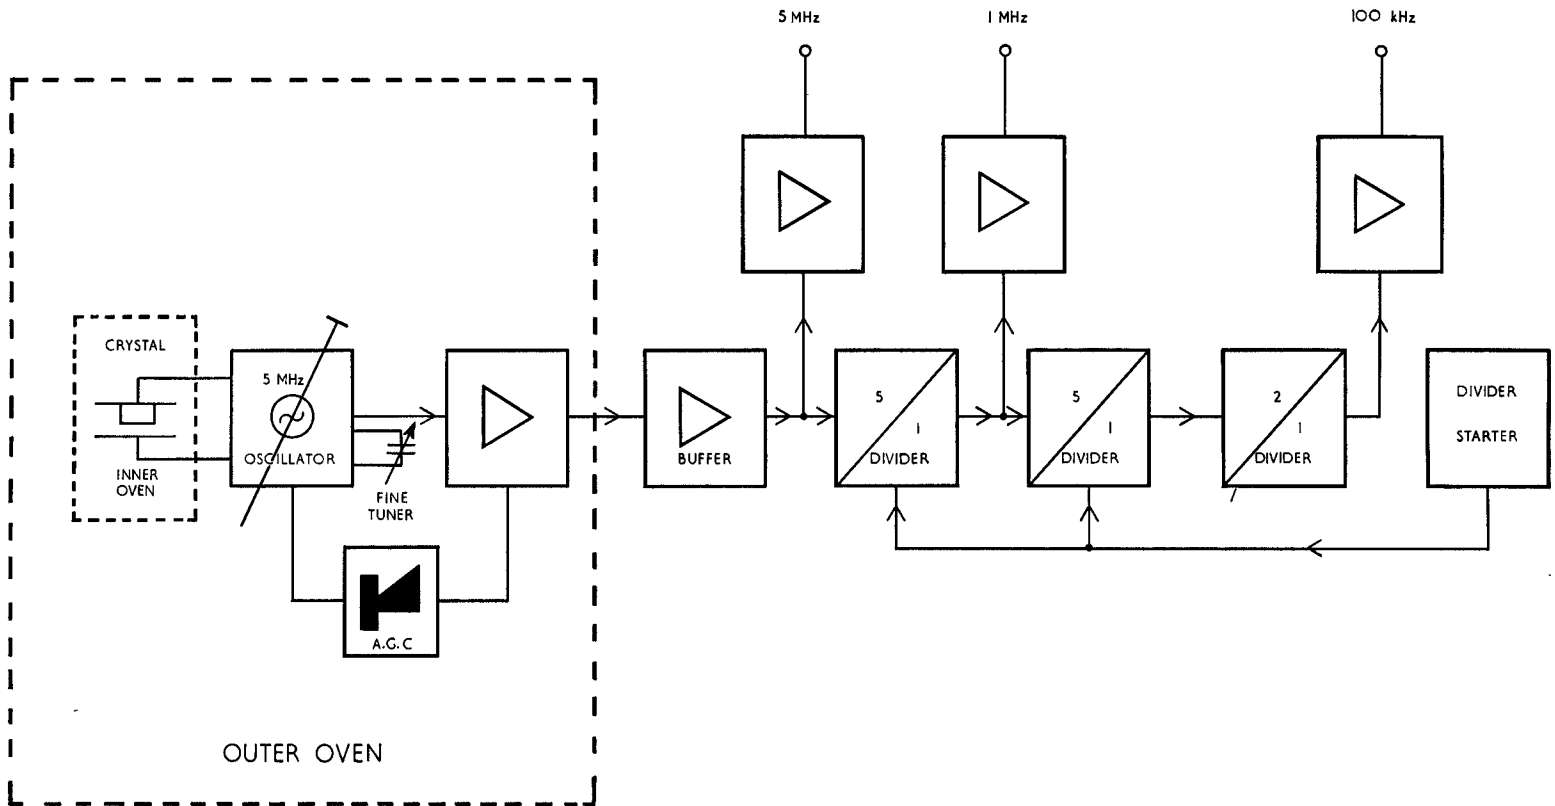

FIG. 2. FSA (3) - FREQUENCY STANDARD - BLOCK DIAGRAM
5. The output of the oscillator stage is fed to a buffer amplifier, then to various divider circuits as shown in Fig. 2 to provide the required outputs. The 5 MHz output is available at a socket on the front panel of the frequency standard whilst the 1 MHz and 100 kHz output are taken to sockets at the top of the cabinet.